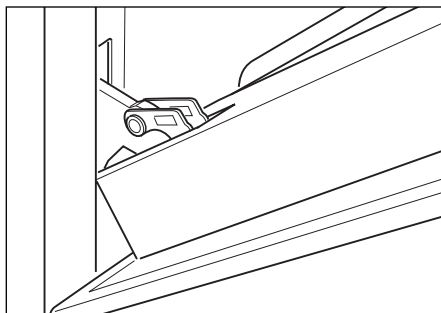

Fig.50d
- Gently close the door until left and right hinge levers "A" are hooked to part "B" of the door (Fig. 50d)